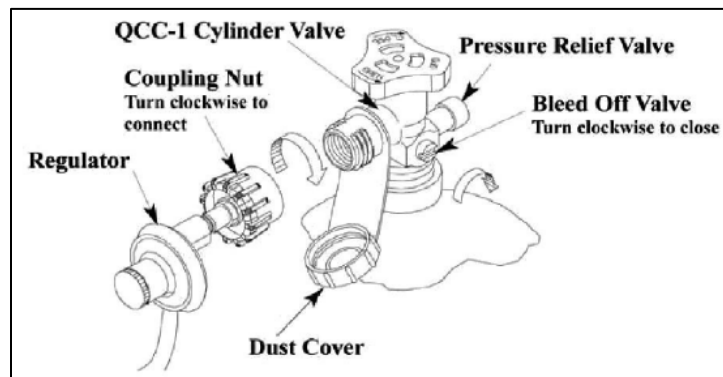

Figure 1 LP Cylinder Valve
- UL listed Overfill Protection Device (OPD) with a unique triangular hand wheel (Figure 1)